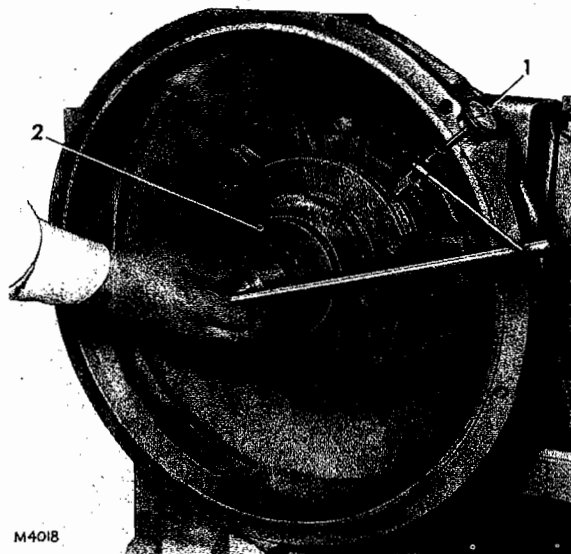

FIG. 13 METHOD USED TO RE-ALIGN THE PUMP COVER
1. Remove the oil seal (86).
2. Apply a thin coat of gasket cement to the mating faces of the pump body and clutch housing; position the pump and secure with bolts and lock washers. Paint the mating faces of the pump cover and cover plate with 'Locquic' Primer Grade T and allow to dry. Apply a thin coat of 'Loctite' Plastic Gasket No. 68 to the mating faces; fit the pump cover and position the service tool Part LC166, as shown in Fig. 13. Re-align the pump cover with the flange on the clutch housing to within 0.1 mm (0.004 in) taking readings from four positions equally spaced around the flange circumference. Tighten down the pump cover bolts.